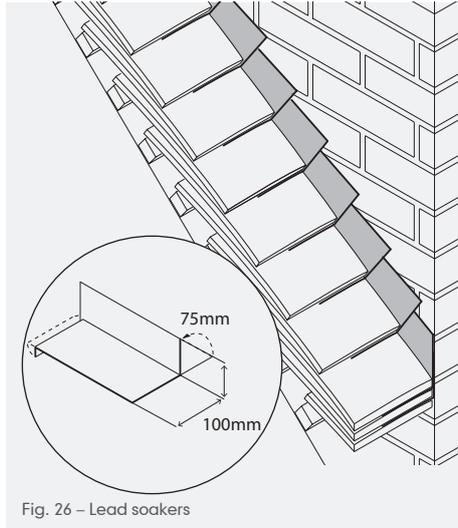

Fig. 26 – Lead soakers
- 3 The length of the soaker should be Gauge + head lap of the tile + 25mm to turn over the head of the tile (e.g., 100mm + 65mm + 25mm = 190mm Fig 26).